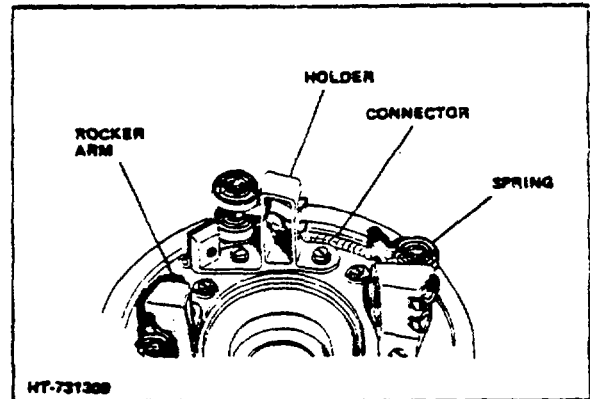

Figure 4-4. Front Housing and Rocker Arm Assembly
- Remove front housing and rocker arm assembly. Note and remove leads from stud. Disassemble rocker arm assembly only as far as necessary to replace worn or damaged parts. Note the disassembly sequence to assure proper reassembly. (See Fig 4-4.)